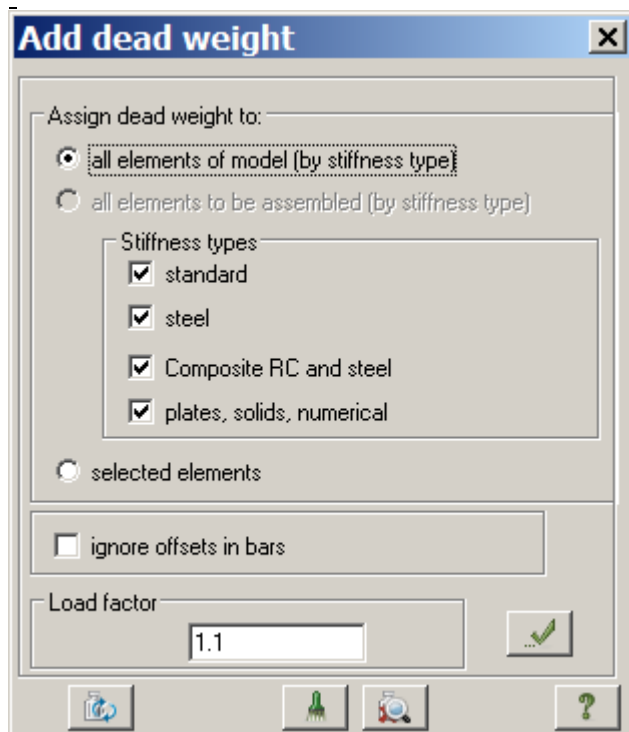

Figure 18.10 **Add dead weight** dialog box
- ⇒ In the **Add dead weight** dialog box (see Fig.18.10), click **All elements** and specify **Load factor** as equal to 1.1.